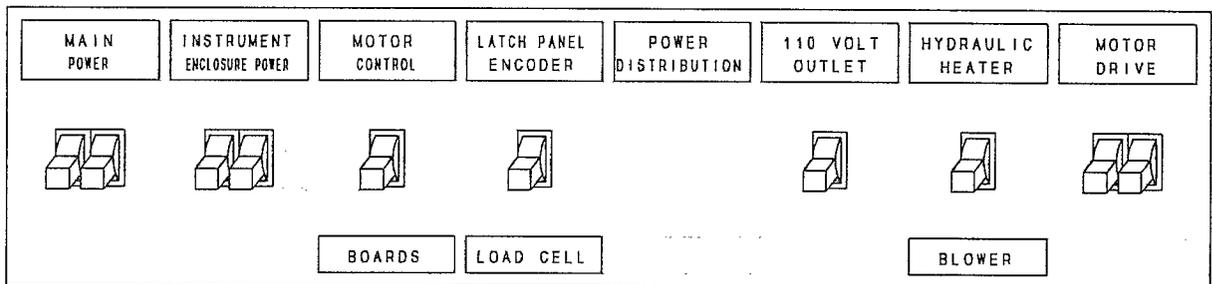
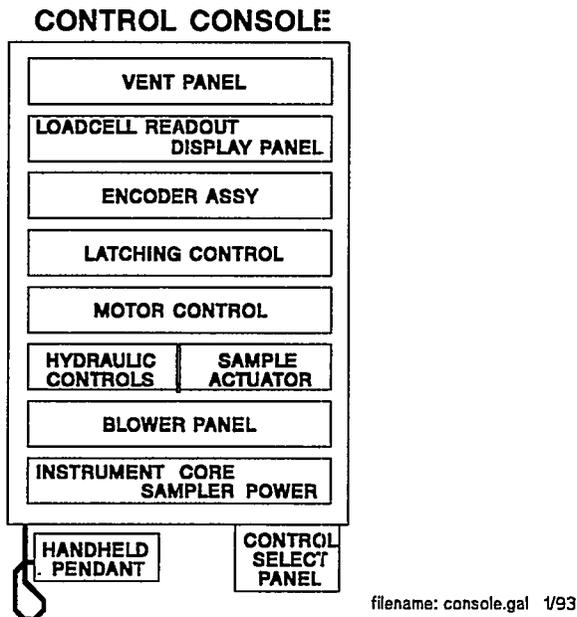

Figure 3) Instrument Core Sampler Power
Figure 4) Control Console Panels.
- OP/CE ___/___ 7.2.12 **ACTIVATE** all breakers on the INSTRUMENT CORE SAMPLER POWER panel, (see Figure 3 and Figure 4 below), of the control console.